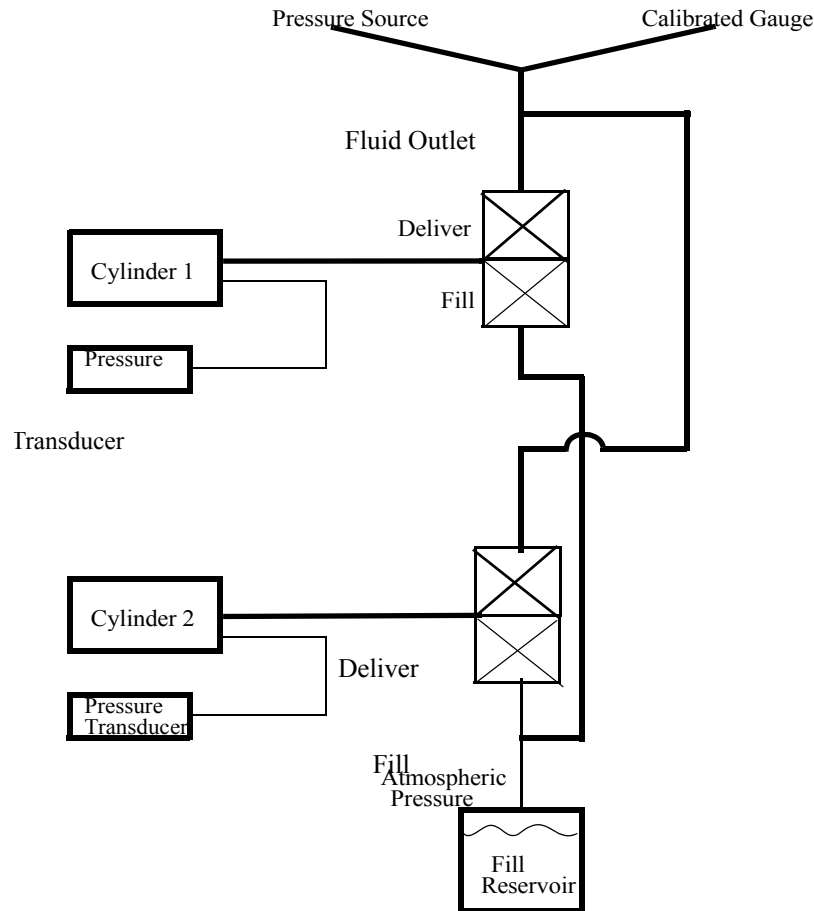

Figure 8-37
1. As shown in the Calibration Setup Diagram in Figure 8-37, connect a calibrated gauge (CG) to the fluid outlet of your Quizix Pump System. Be sure your fill valves are connected to a fill reservoir at atmospheric (“zero gauge”) pressure.